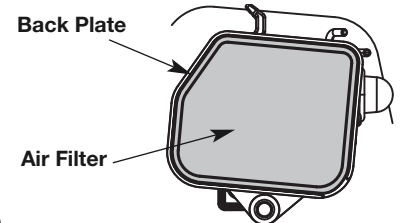

Fig. 25
2. Remove the air filter (Fig. 25).
4. Replace the air filter into the base plate (Fig. 25).